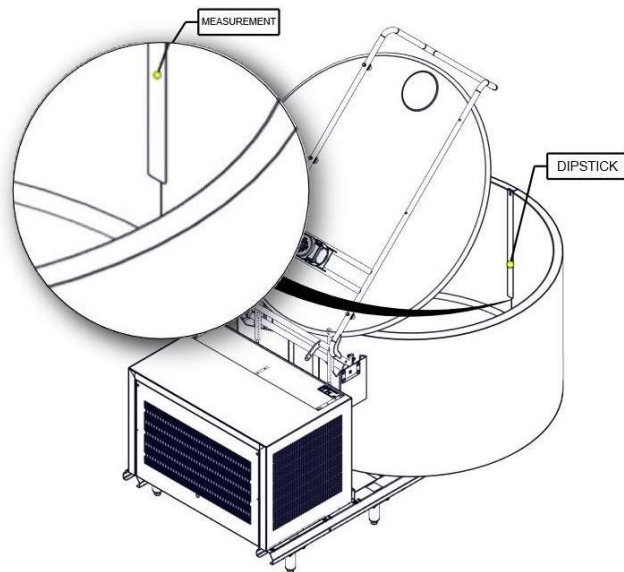

Figure 6: Tank leveling process. Stage 2B
5. Figure 6, and record the water level measurement.